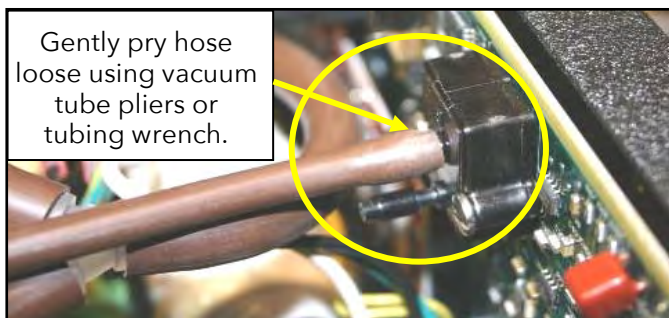

Figure 12. PRESSURE TRANSDUCER.
17. Using tubing wrench or vacuum tube pliers, gently disconnect the outlet manifold air hose from the upper port of the pressure transducer. Refer to Figure 12. Once disconnected, move the hose out of the way.